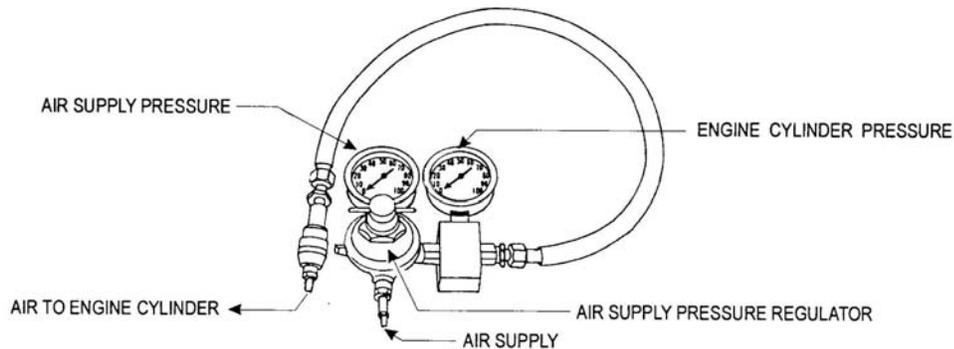

Figure 1: Typical Differential Compression – Measuring Device
3. The apparatus in seen in Figure 1 is an example of a typical differential compression measuring device that must be employed for this procedure.